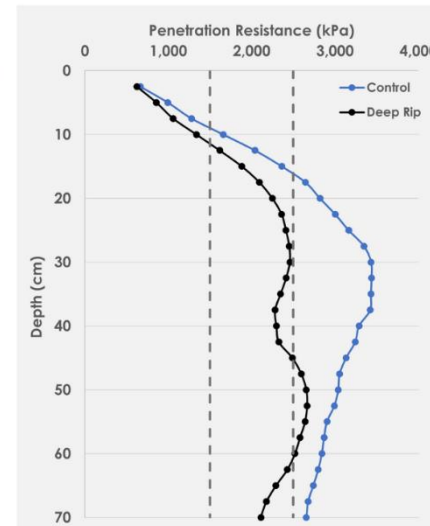

Figure 1. Soil penetration resistance (kPa), showing deep ripping causes a substantial reduction in soil strength.
Soil strength was measured using a digital penetrometer. Penetration resistance (PR) exceeded the critical threshold of 2,500 kPa at 17cm in the Control (Figure 1); deep ripping reduced the PR below this threshold to a depth of 45cm.